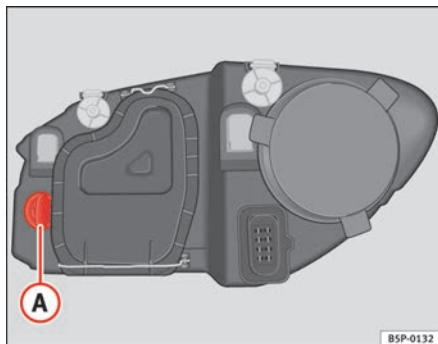

Fig. 178 Turn signal lamps
- Rotate the lamp holder ⇒ fig. 178 **A** to the left and pull.